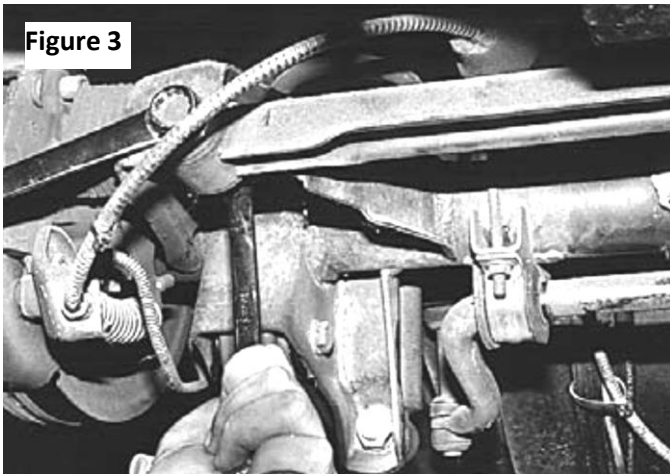

Figure 3
3. Remove the bolts at each end of the stock panhard bar and remove the panhard bar from the vehicle. Inspect hardware and replace if needed. See **Figure 3.**